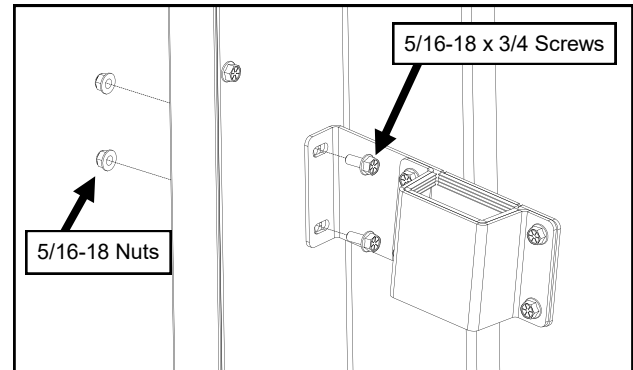

Fig. 8.2 (Rear Leg to ROPS Bracket Fasteners)
- 8.2 Fasten the rear leg to the previously installed ROPS brackets. See Figure 8.2.